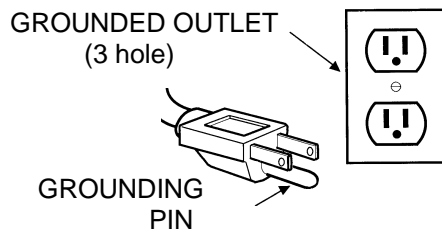

Fig. 3
5. Plug machine's power cord into grounded wall outlet (Figure 3). Do not remove grounding pin from power cord as this will prevent proper grounding from occurring.